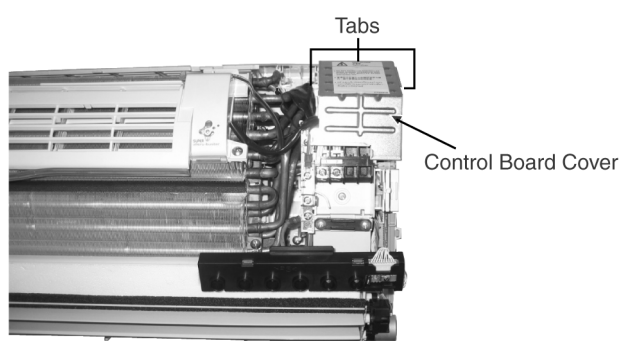

Fig. 2
- Unhook the tabs at the Control Board to remove the Control Board Cover. (Fig. 2)